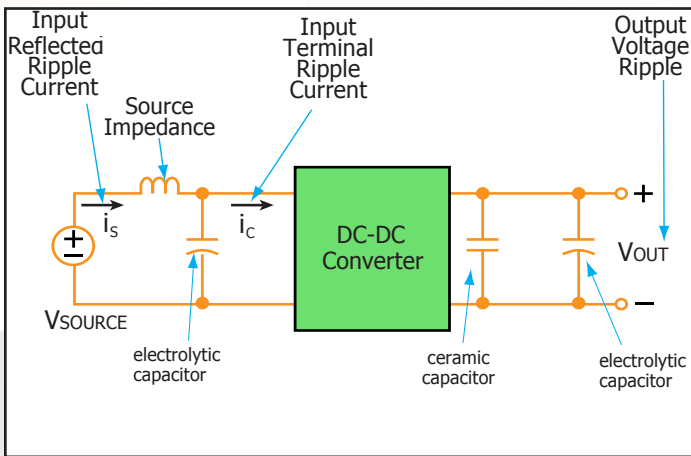

Figure 13: Test Set-Up Diagram, showing measurement points for Input Terminal Current Ripple (Figure 9) and Output Voltage Ripple (Figure 10).
**Figure 9: Input Terminal Current Ripple,  $i_C$ , at full rated output current and nominal input voltage with a 220  $\mu\text{F}$  electrolytic capacitor (500 mA/div). Bandwidth: 20 MHz. See Figure 13. Timescale: 2 $\mu\text{s}$ /div.**
**Figure 10: Output Voltage Ripple,  $V_{out}$ , at nominal input voltage and rated load current (100 mV/div). Load capacitance: 1  $\mu\text{F}$  ceramic and 100  $\mu\text{F}$  electrolytic capacitors. Bandwidth: 20 MHz. See Figure 13. Timescale: 2 $\mu\text{s}$ /div.**